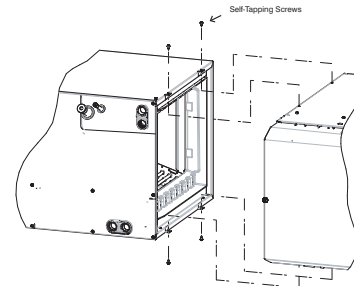

Fig. 7 - Horizontal Left Installation
3. Use self-tapping screws to attach furnace. (See Fig. 7.)